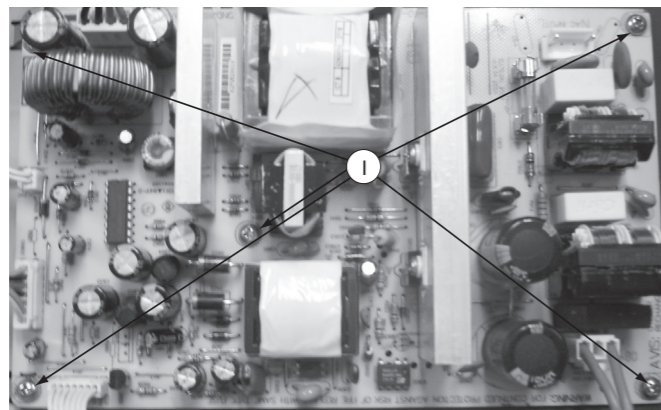

Figure 12
- 1) Loosen 5 screws “I” on the top of Power Board as shown in figure 12.